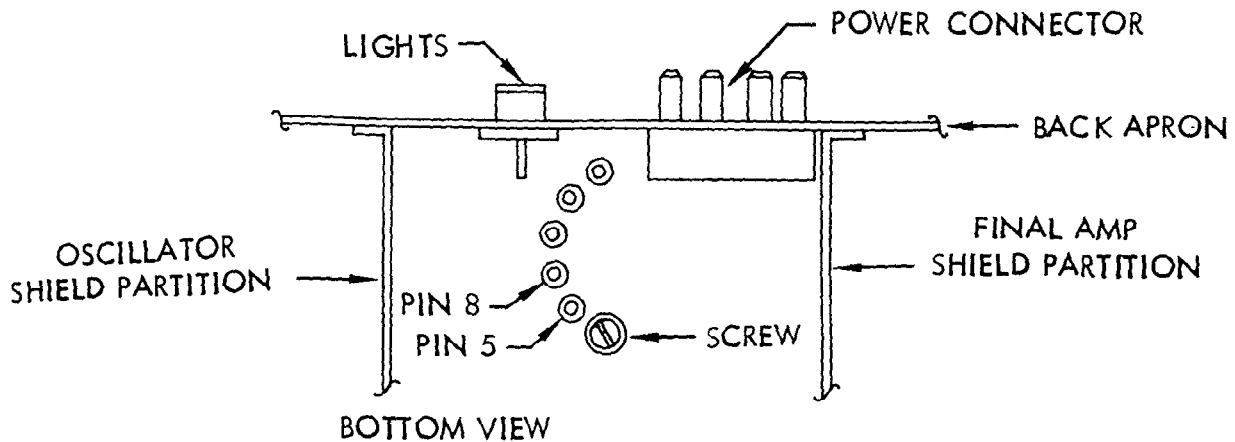

FIGURE 2.2.2-1
- ( ) Refer to Figure 2.2.2-1 of this manual and Figure 11 of the TR-3 manual or Figure 14 of the TR-4 manual and locate the underchassis feed through control of relay K1 as shown in Figure 2.2.2-1.
- ( ) If you are not using the external control function of relay K1, connect a short piece of hook-up wire from pin 5 of Figure 2.2.2-1 and solder to chassis ground.
- ( ) Connect the MAGNUM SIX lead labeled "R" to pin 8 of Figure 2.2.2-1.